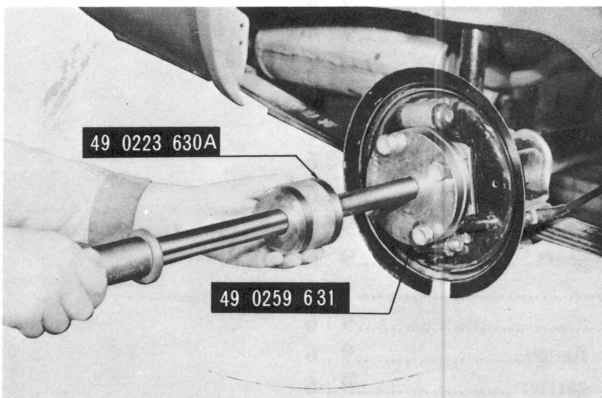

Fig. 9-1 Removing rear axle shaft
2. Remove the rear axle shaft from the rear axle housing, using the rear axle shaft removal (part No. 49-0225) and (49-0226) as shown in Fig. 9-1.
5. Remove the rear axle shaft from the rear axle housing, using the **rear axle shaft remover** (Part Nos. 49 0223 630A and 49 0259 631), as shown in Fig. 9-1.